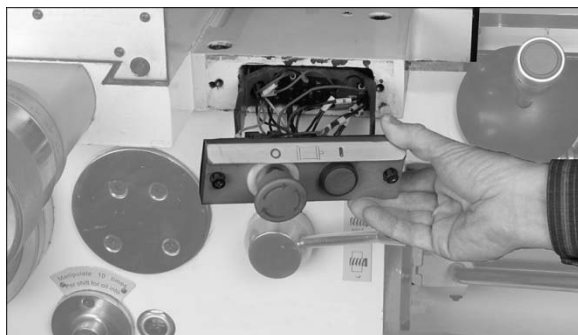

Figure 19 – Rapid feed motor wire access
2. **Rapid Feed Motor:** Remove the control panel on the saddle (Figure 19) to rewire the rapid feed motor. Change the leads according to the wiring diagram in sect. 17.0. **It is not necessary to pull out the rapid feed motor for voltage conversion.**